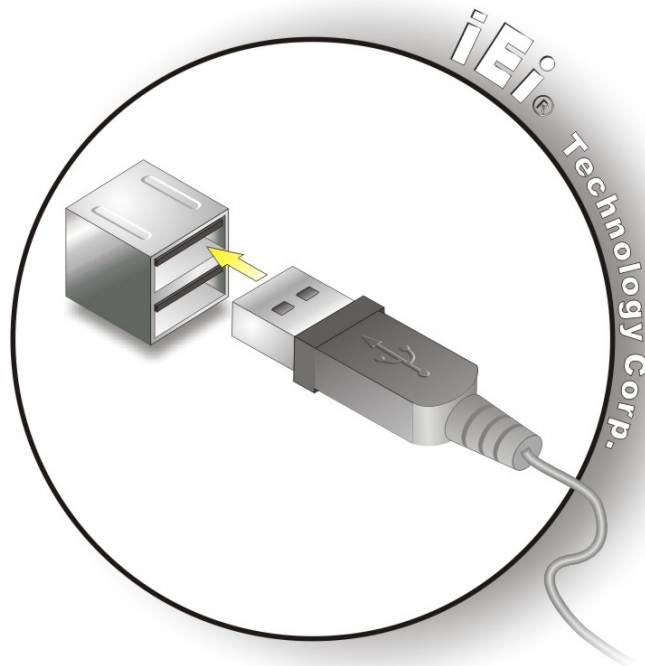

Figure 2-22: USB Device Connection
Step 2: Align the connectors. Align the USB device connector with one of the connectors on the bottom panel. See **Figure 2-22**.